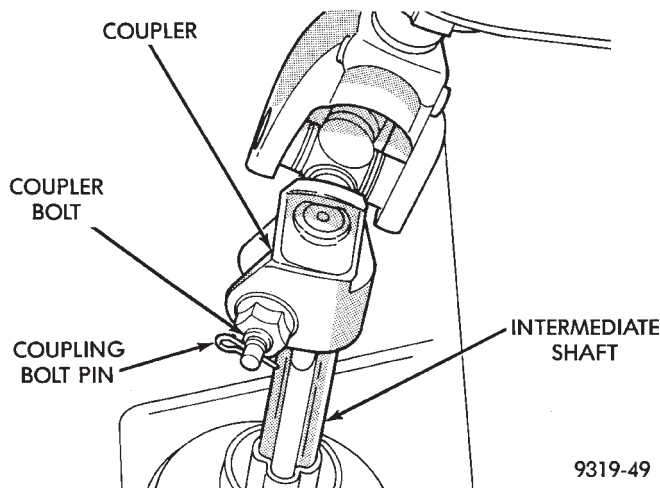

Fig. 11 Coupler Bolt And Retaining Pin
(18) Remove coupling bolt retaining pin, from lower steering column coupler bolt (Fig. 11). Then remove coupler bolt and separate coupler from intermediate shaft (Fig. 11).
(19) Loosen but do not remove the 2 bolts attaching lower steering column assembly bracket, to steering column mounting bracket.
(5) Position steering column so lower bracket of steering column assembly rests on lower steering column mounting bolts. This will determine the for-and-aft position of the steering column in the vehicle. Temporarily install the upper and lower steering column shrouds and center instrument panel outlet bezel. Visually center steering column shrouds in instrument panel opening with steering column tilted full up. Then tighten the upper and lower steering column assembly fasteners to hold steering column in place. Then remove the steering column upper and lower shrouds and center instrument panel bezel.
(7) Install the upper column coupler onto the lower coupler shaft. Install coupler bolt (Fig. 11) into steering coupler and torque to 28 N•m (21 ft. lbs.). **Be sure to install the coupler retaining pin (Fig. 11) into coupler bolt.**